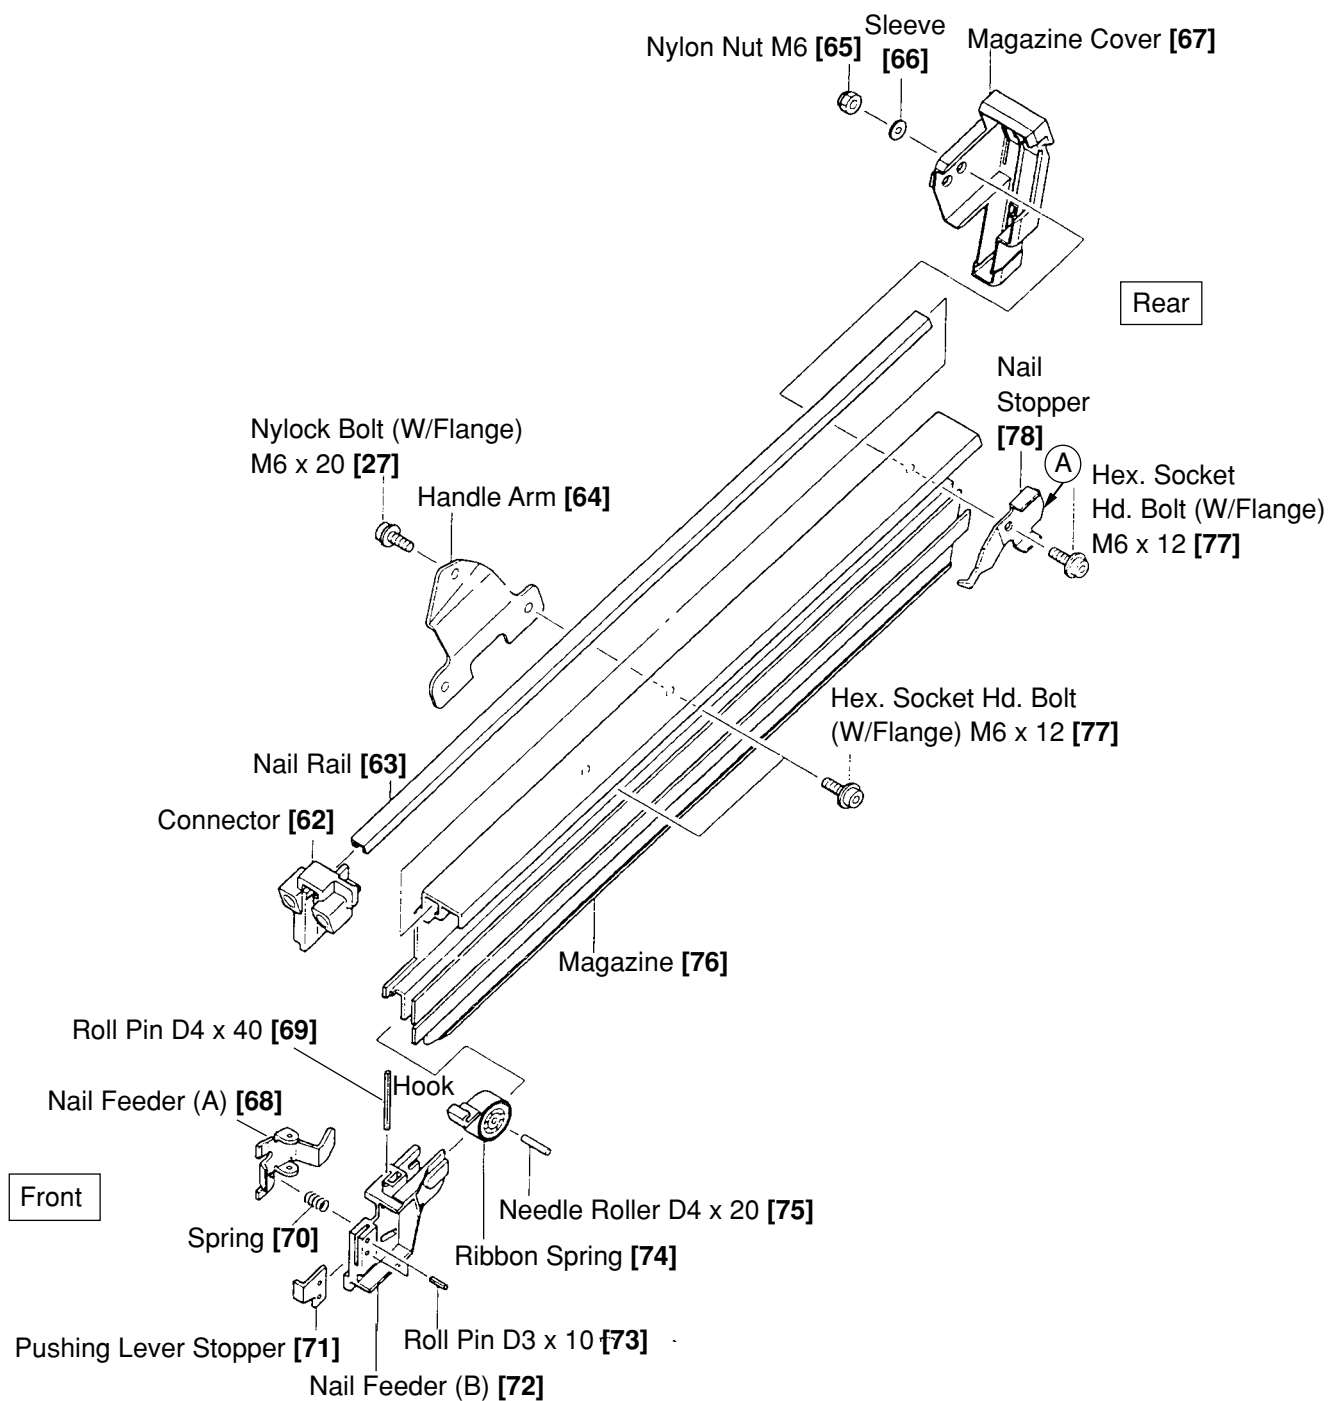

Fig. 20
(2) Magazine [76], Nail Feeder (B) [72] and the related parts (See Fig. 20.)